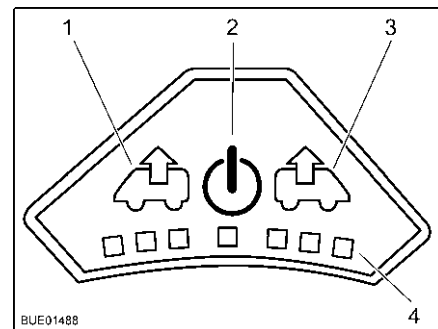

Fig. 93 Control panel for fan
Switching on: ■ Press the On/Off button (Fig. 93,2). The fan runs in comfort mode (venting at slowest fan speed).
Venting: ■ To increase the fan speed: Press the Vent button (Fig. 93,1). The fan speed in the venting direction increases by one level. LEDs (Fig. 93,4) show the operating levels.
■ To lower the fan speed: Press the Aerate button (Fig. 93,3). The fan speed decreases by one level.
Aerating: ■ To increase the fan speed: Press the Aerate button (Fig. 93,3). The fan speed in the aerating direction increases by one step. LEDs (Fig. 93,4) show the operating levels.
■ To lower the fan speed: Press the Vent button (Fig. 93,1). The fan speed decreases by one level.
Switching off: ■ Press the On/Off button (Fig. 93,2). The fan stops, the LEDs go out.